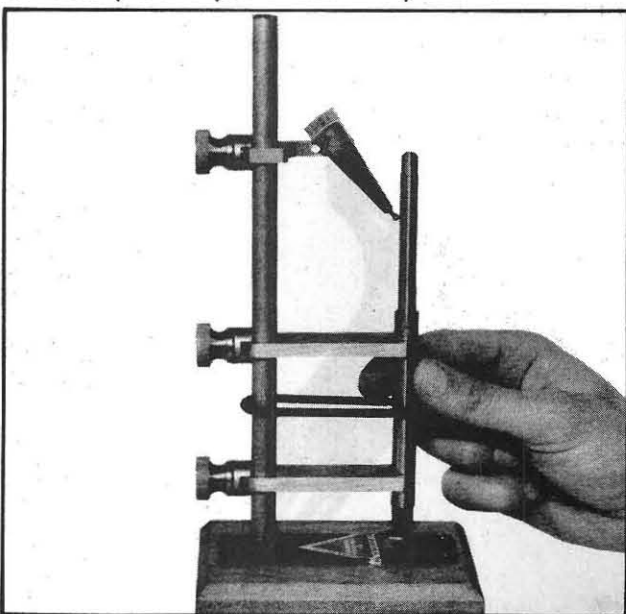

Fig. 41
1. Inspect pilot to make sure it is not bent by checking it on the gauge, see Fig. 41. Use a micrometer to check for excessive wear.